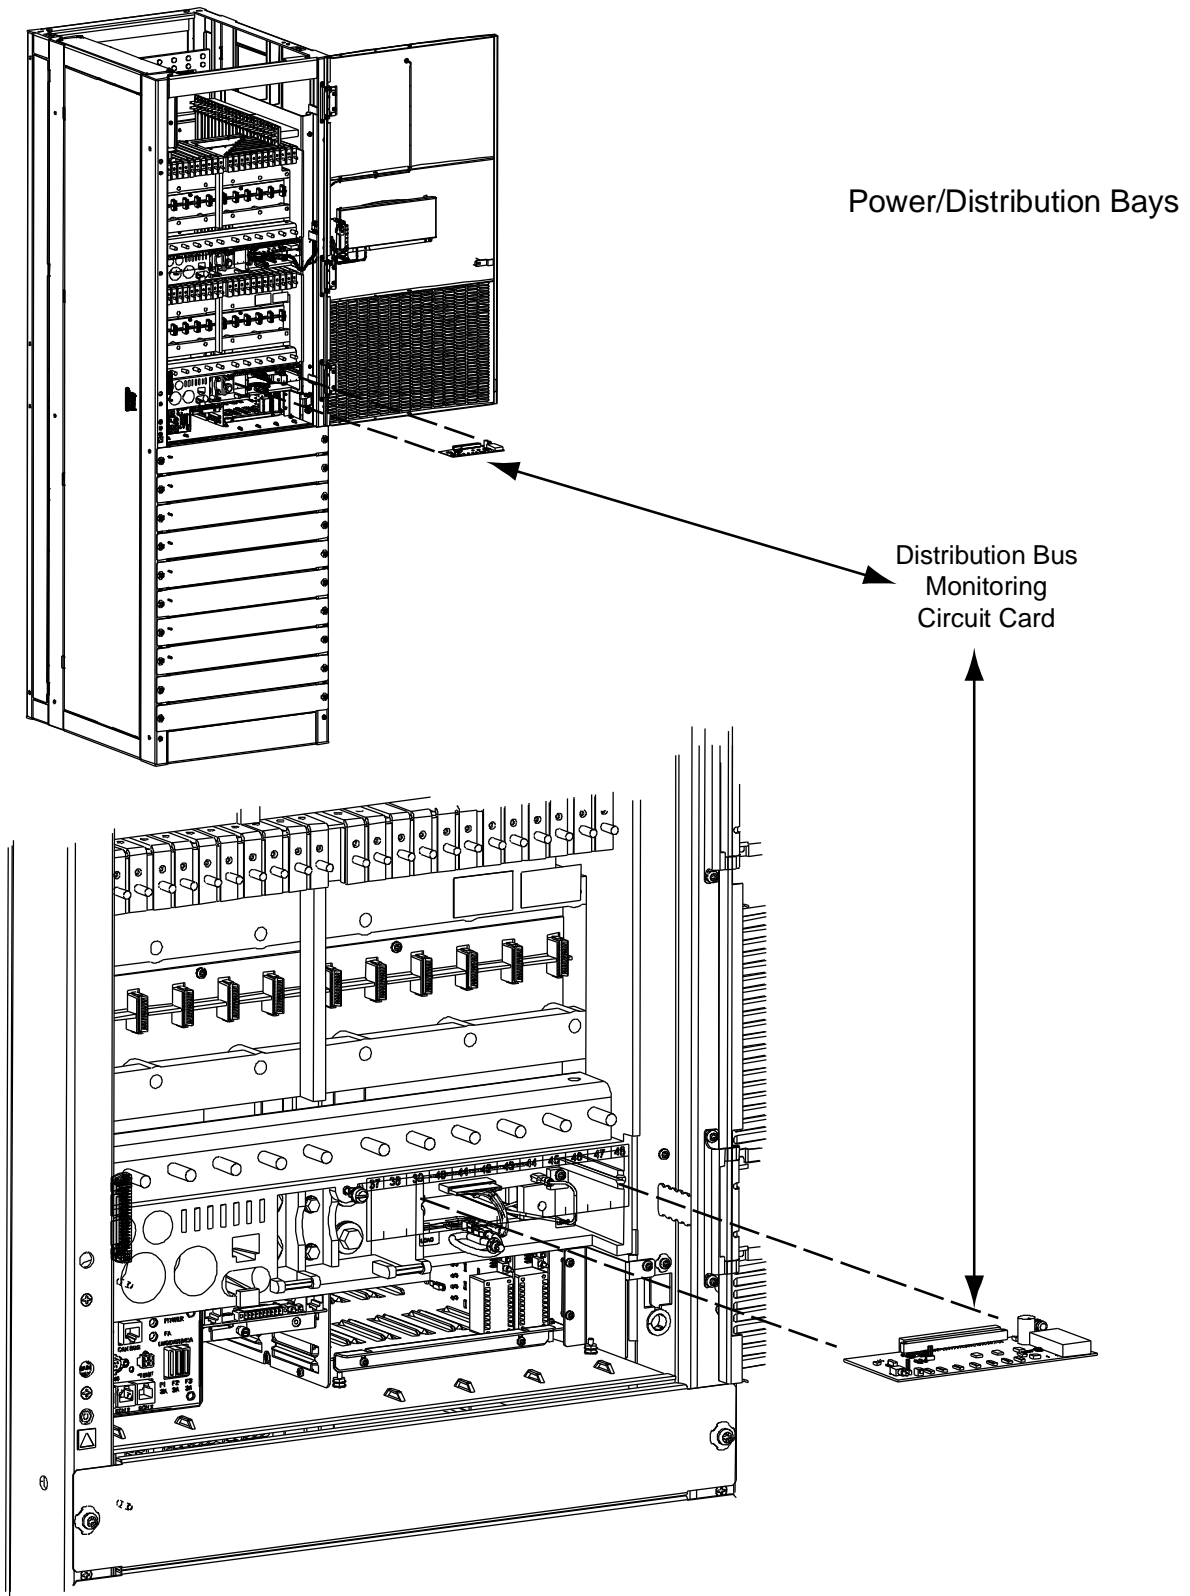
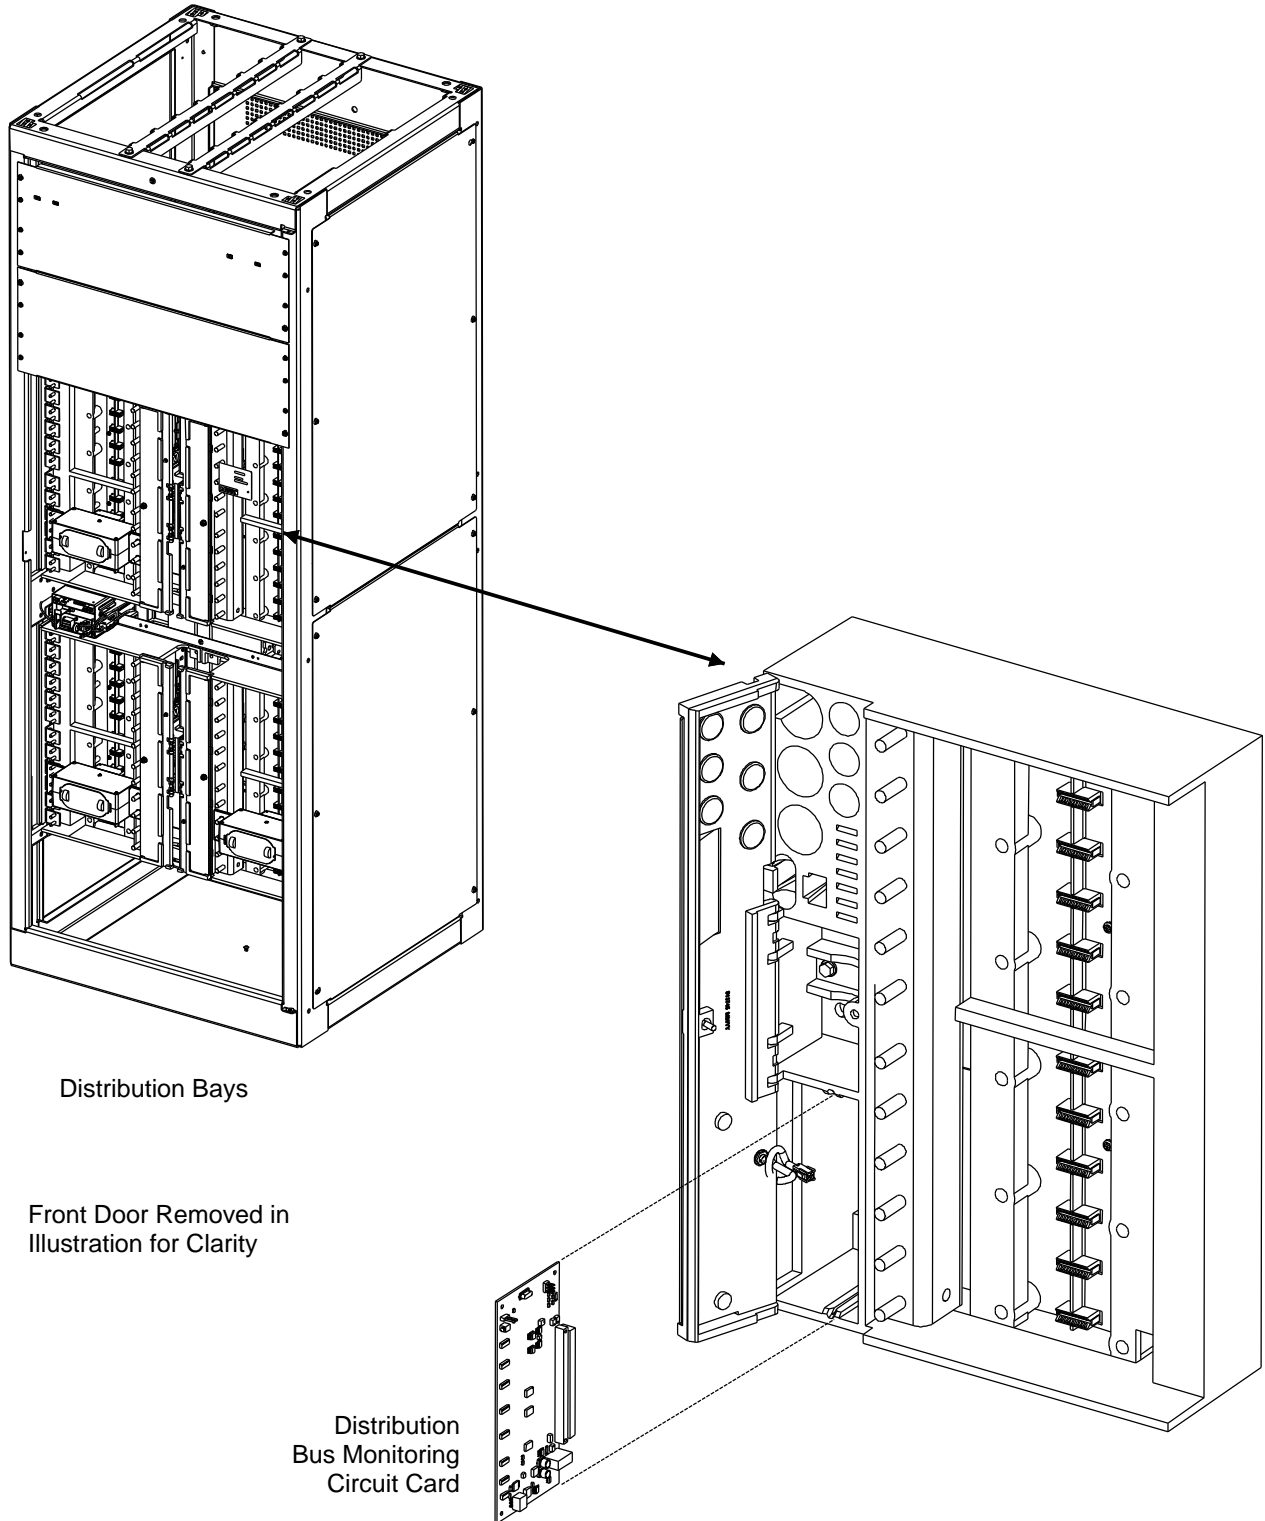

Figure 6-4
Figure 6-5
**Note:** Refer to Figure 6-4 and Figure 6-5 as this procedure is performed.